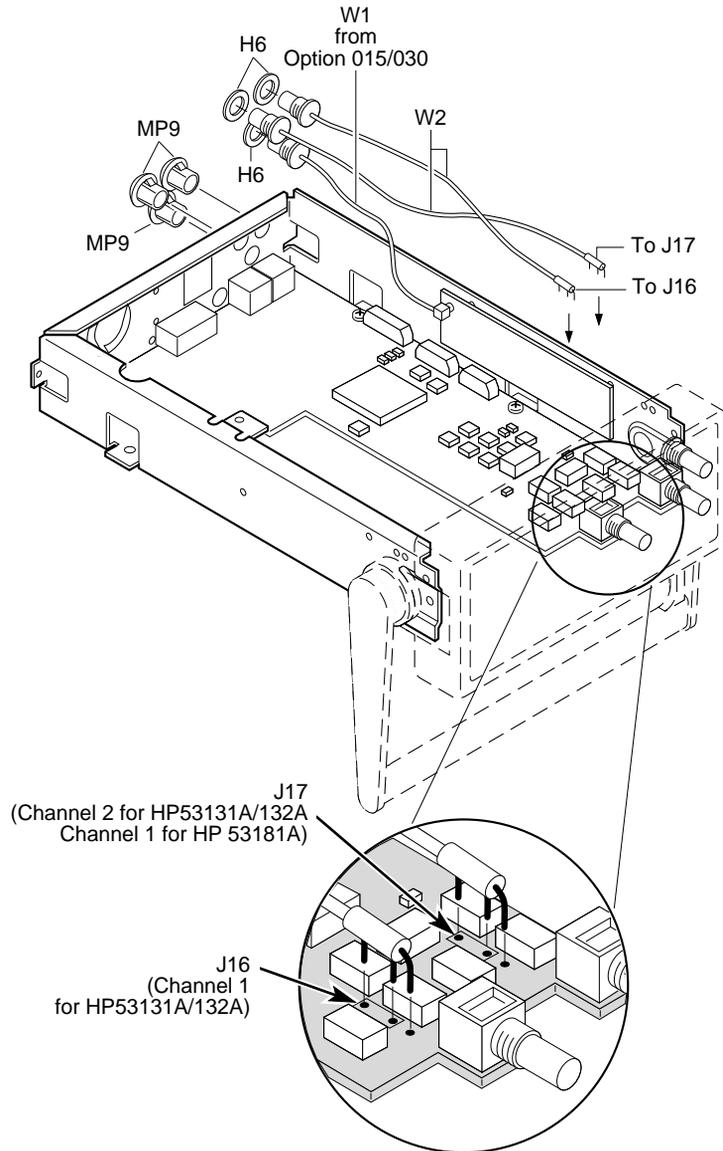

Figure 4-3B. Rear Terminals Retrofitting
- 3 Remove the end of the optional channel (Option 015/030) coaxial cable (W1) that is connected to the front-panel and insert it through the appropriate rear *INPUTS* opening (3 for HP 53131A/132A; 2 for HP 53181A) as shown in Figure 4-3B.**
For the HP 53131A/132A solder the rear chassis **INPUTS 1** cable to J16 and **INPUTS 2** to J17. (See Figure 4-3B.)
For the HP 53181A solder the rear chassis **INPUTS 1** cable to J17. (See Figure 4-3B.)